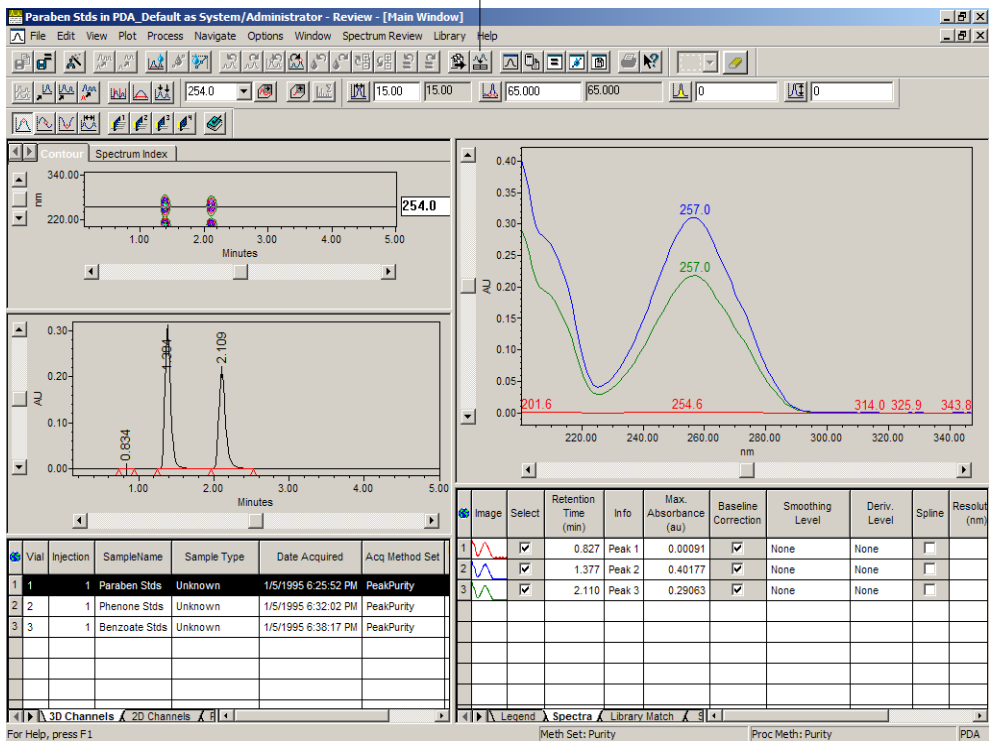

Figure 4-5 Paraben Stds Chromatogram
5. In the Names list, select **Purity** or the method set that you created in Chapter 3. Peak Purity Processing, then click **Open**. The Purity method set is automatically applied to the data in the Review window. The chromatogram at 254 nm for Paraben Stds appears in the Review Main window (Figure 4-5) and the apex spectra for the peaks appear in Spectrum Review.